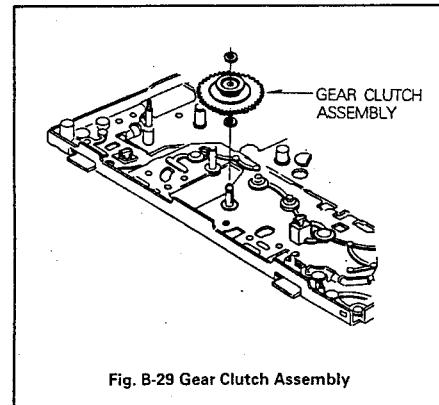

Fig. B-29 Gear Clutch Assembly
- ① Set the part(A) of Tension Lever Assembly in the groove of Lower part of Function Plate.
- ② After reinstalling the Tension Lever Assembly, adjust the Tension Post and the Tension with a Tension Cassette.
29. Clutch Gear Assembly(Fig. B-29)